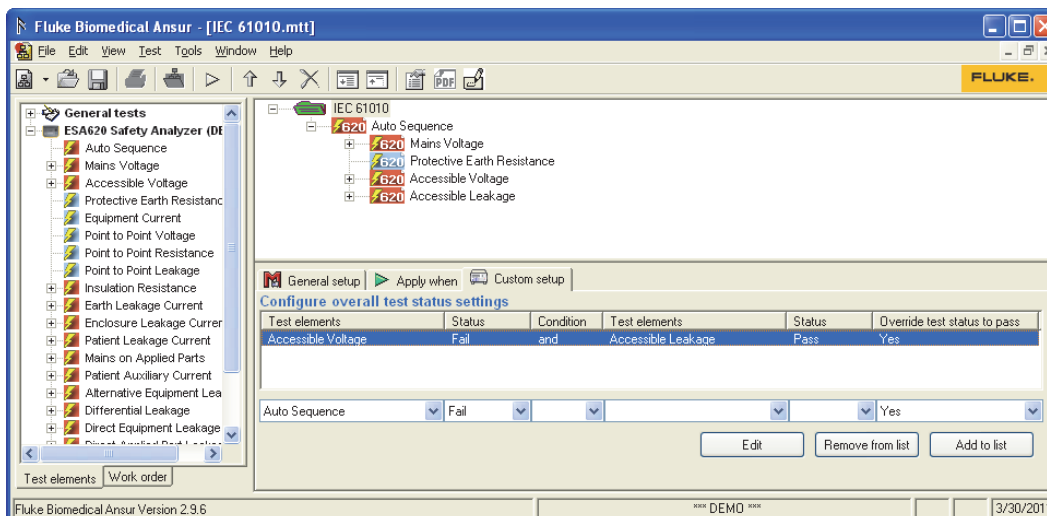

Figure 3-51. Add Second Test Element to Override Condition
4. Click the down arrow on the right end of the second **Test elements** combo box shown in Figure 3-51 and highlight the test element that will satisfy the second part of this override condition.